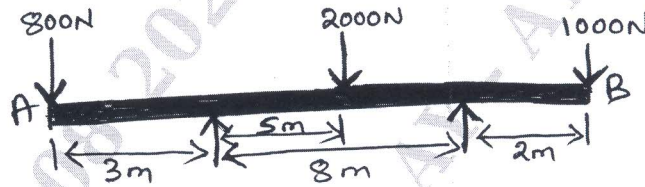

Fig.Q6
- 6 Draw the S.F. and B.M. diagrams for the beam which is loaded as shown in Fig.Q6. Determine the points of contraflexure within the span AB.